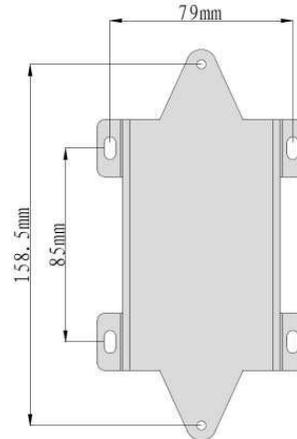

Fig. 7b – Mounting bracket drill template
- 1) Mark the mounting bracket hole locations as shown in Fig. 7b.